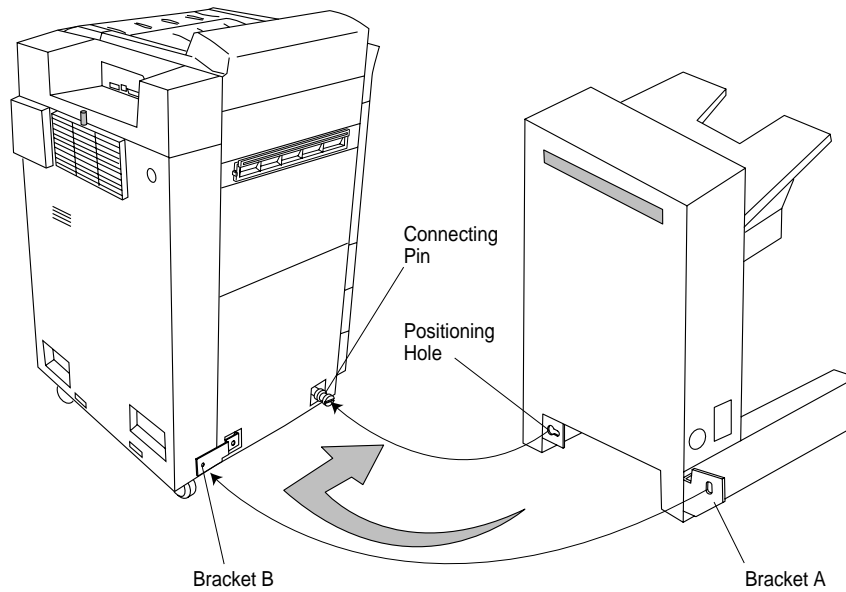

Figure 3-68 Separating HCO and printer
1. The printer physically connects to the HCO with a connecting pin, which fits into the corresponding positioning hole on the HCO. See Figure 3-68.